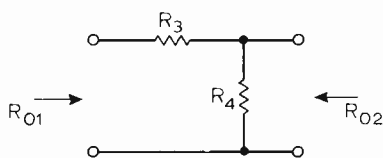

Fig. 6. Matching pad for joining two different impedance levels.
Such a matching pad is shown in Fig. 6. It has the property that the resistance looking into the left-hand terminals is R_{01} when the right-hand are terminated by R_{02} and conversely, where $R_{01} > R_{02}$. The basic equations are
This is a case where the matching pad of Fig. 6 comes in, as was pointed out earlier, for matching 75 Ω to 50 Ω, R_3 is 43.3 Ω with R_4 86.6 Ω. It is now necessary to find out the input impedance Z_{in} of this section when it is terminated by $Z = r + jX = 10 + j150$ instead of by $R_{02} = 50 \Omega$. Equation (4) applies if we write Z_{in} for R_{01} and Z for R_{02} to get